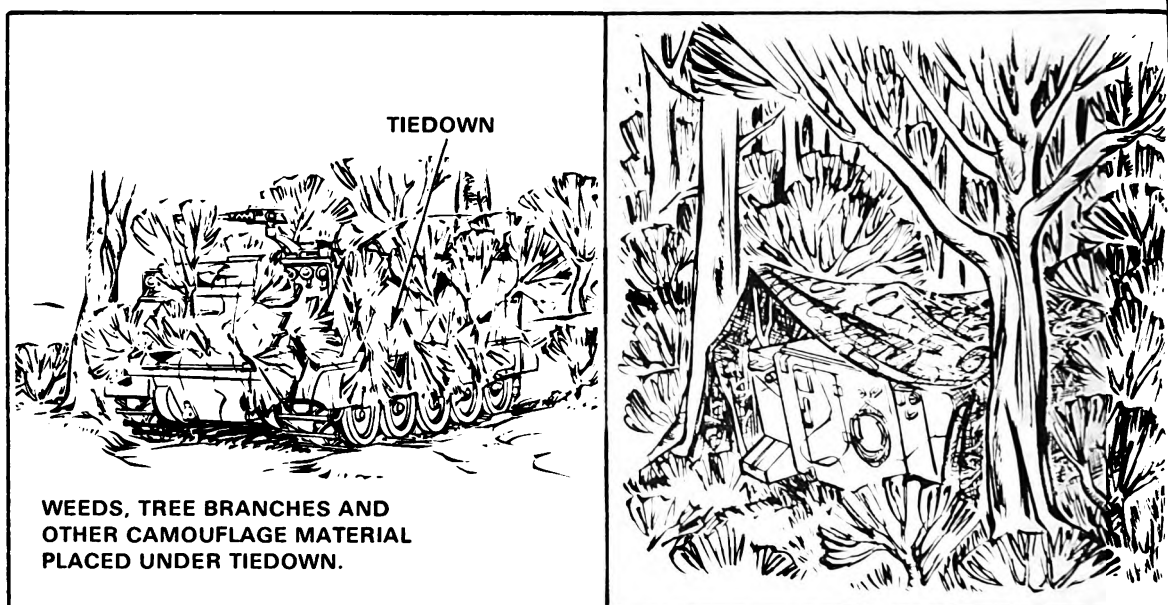

Figure 2.
2. Use natural materials (foliage, grass, mud, etc.) and manmade materials to alter the shape and size of the equipment (figure 2).